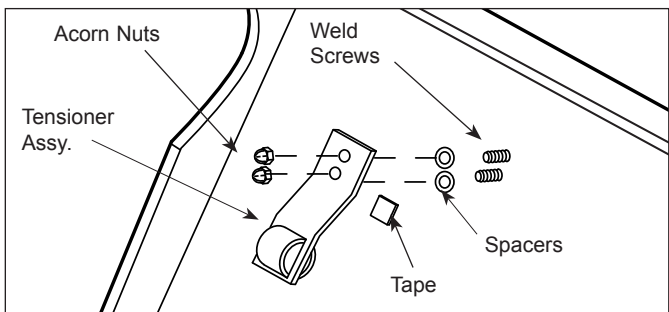

Figure 11. Replacing the Roller Tensioner
1. Remove the acorn nuts and old Roller Tensioner Assembly (Figure 11).
2. Install the new Tensioner Assembly (Figure 11).